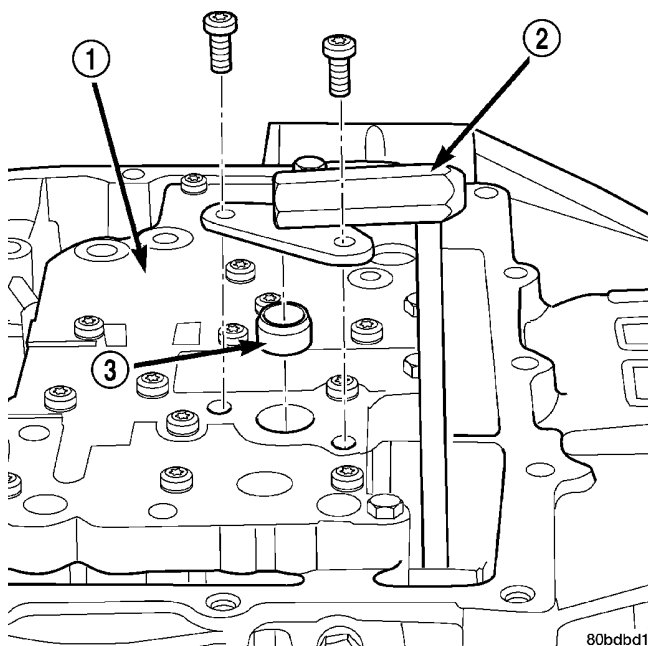

Fig. 8 Cooler Bypass Valve and Seal
(9) Remove cooler bypass valve and seal (Fig. 8).